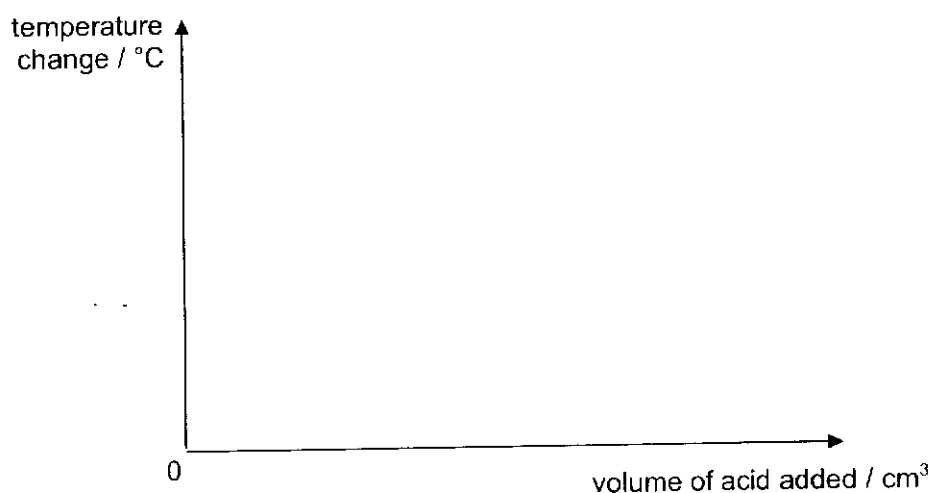

Figure 4.1
- (b) (i) Sketch on **Figure 4.1** the graph you would expect to get from your results.
(i) Sketch on **Figure 4.1** another graph to show the results you would expect to obtain when **FA 12** is used instead of **FA 11**. Label the graph with (c)(i).
(ii) Explain the difference in the two graphs in **Figure 4.1**.